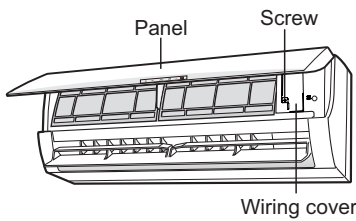

Fig. 11
- (1) Open the panel, remove the screw on the wiring cover and then take down the cover. (As show in Fig. 11)